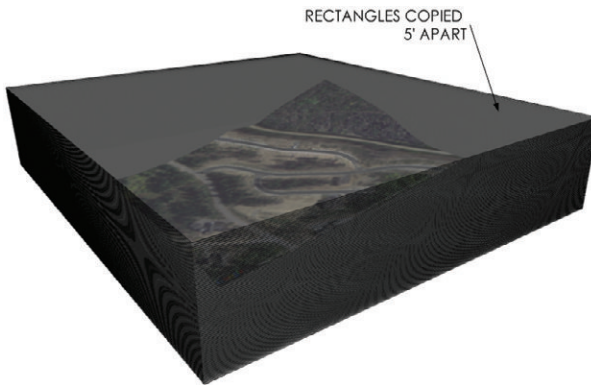

Figure 15.16 Rectangles slices are copied up on the blue axis at 5' intervals to completely cover the terrain; X-ray mode is turned on for effect.
- Copy the rectangle up along the blue axis 5' (or whatever interval you want your topographic map to read; for example, 1', 10', 25'). Immediately after you make a copy, type **150x**, then press Enter, to make 150 additional copies of the original rectangle, each at the same interval. The goal is to make sure that the entire 3D terrain is covered with the rectangle slices (Figure 15.16).